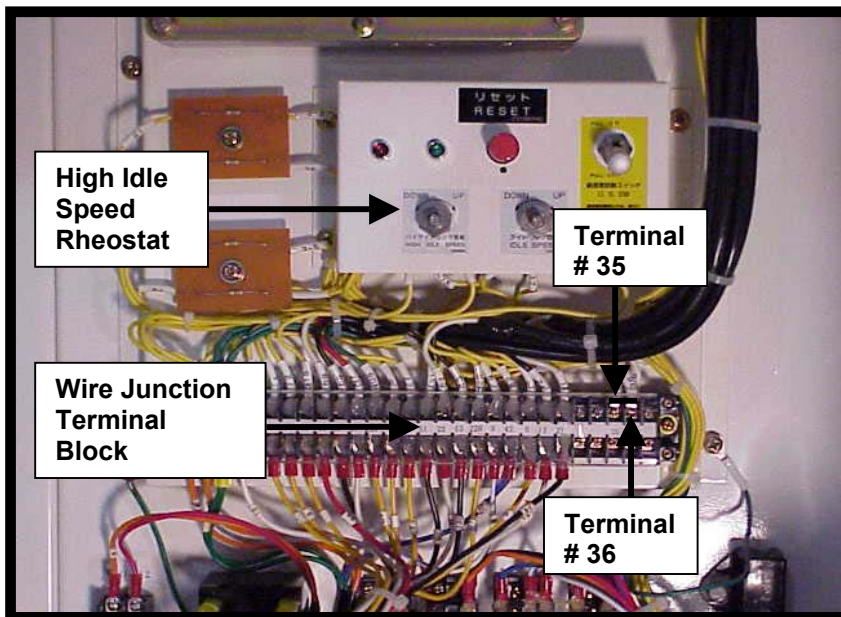

Figure 1
- 1) Install a jumper wire (16 gauge) between terminals # 35 and # 36 at the Wire Terminal Block. **See Figure 1** (Located on the backside of the Main Control Panel Right Door).
- 5) Adjust the High Idle Speed Rheostat until the engine is at operating speed (1500 RPM / 1800 RPM). To adjust the operating speed, turn rheostat clockwise to increase the engine speed, and counter clockwise to decrease the engine speed. **See Figure 1** (Located on the backside of the Main Control Panel Right Door).